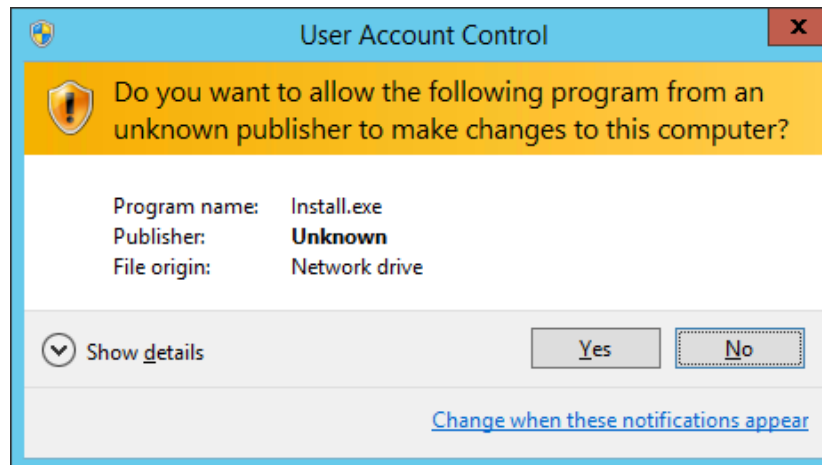

Figure 8
- If **User Account Control** is enabled, the **User Account Control** window will be displayed. See Figure 8 below.